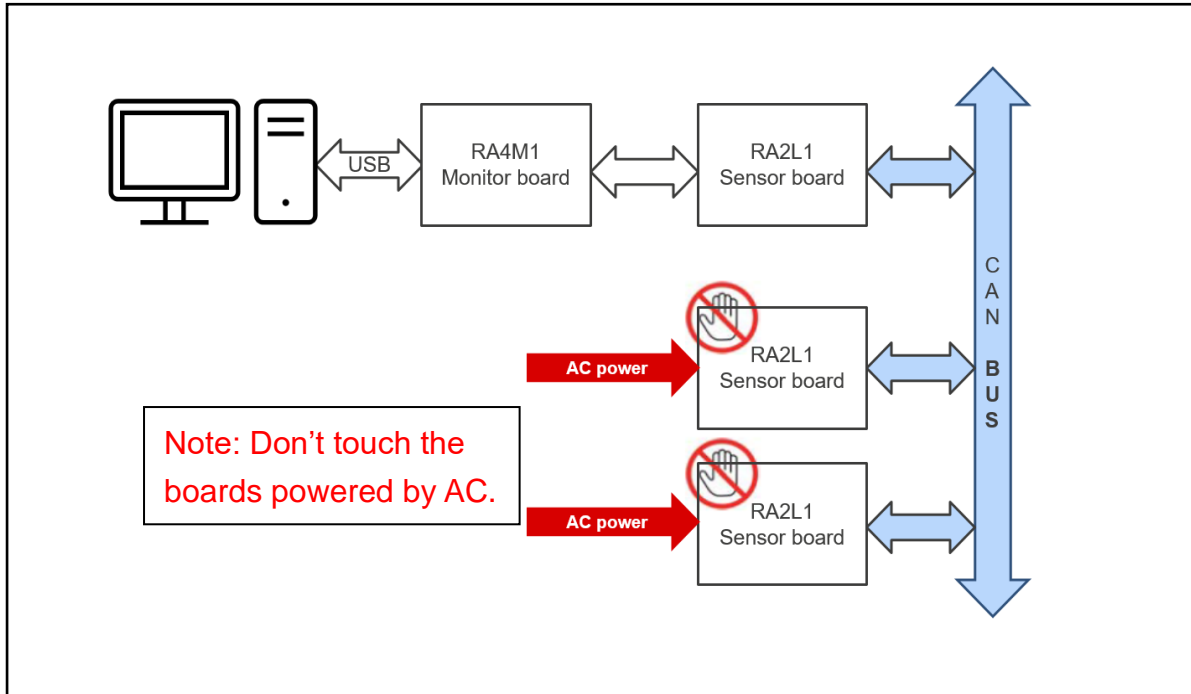

Figure 1-1 RA CAN-Sensor Evaluation Kit Block Diagram
- A. Figure 1-1 is the block diagram of RA CAN-Sensor evaluation kit. When using AC power supply, please pay special attention to not touching the circuit board to avoid the risk of the electric shock.